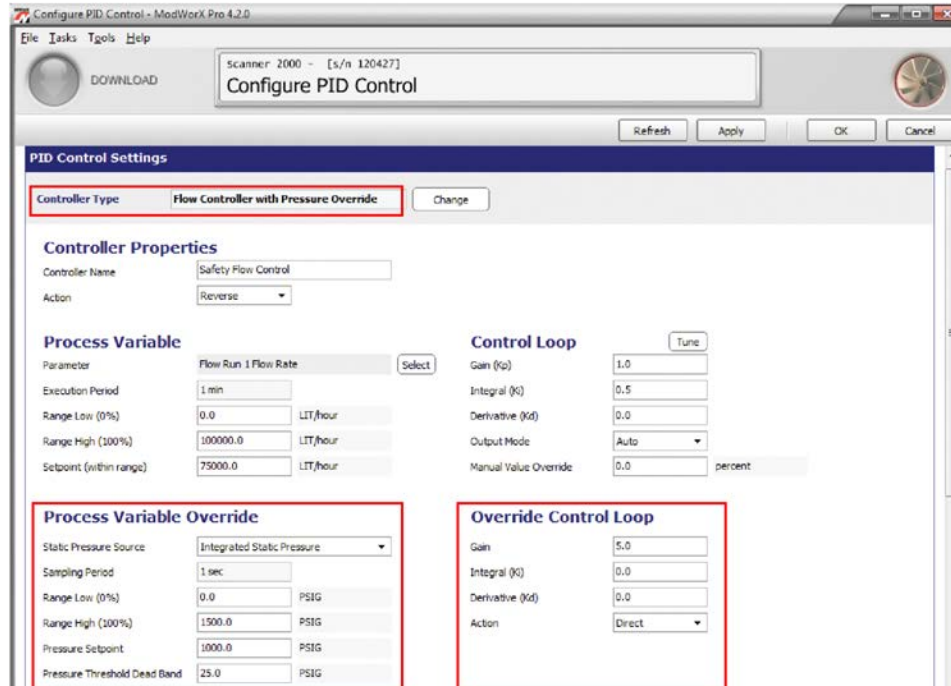

Figure B.6
8. In the Pressure Variable Override section (see Figure B.6), click in the “Static Pressure Source” field and select the static pressure source.